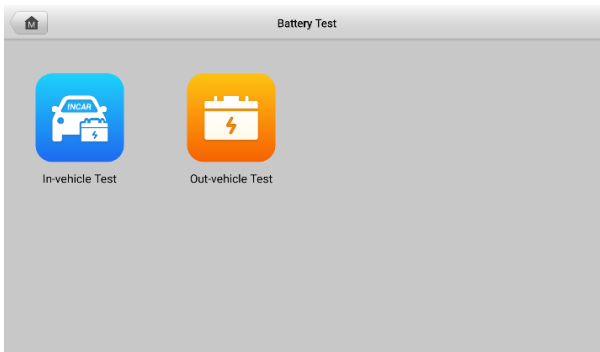

Figure 8-3 Battery Test Screen
1. Tap the **Battery Test** application on the MaxiSys Job Menu. The Battery Test screen displays (see Figure 8-3 Battery Test Screen).